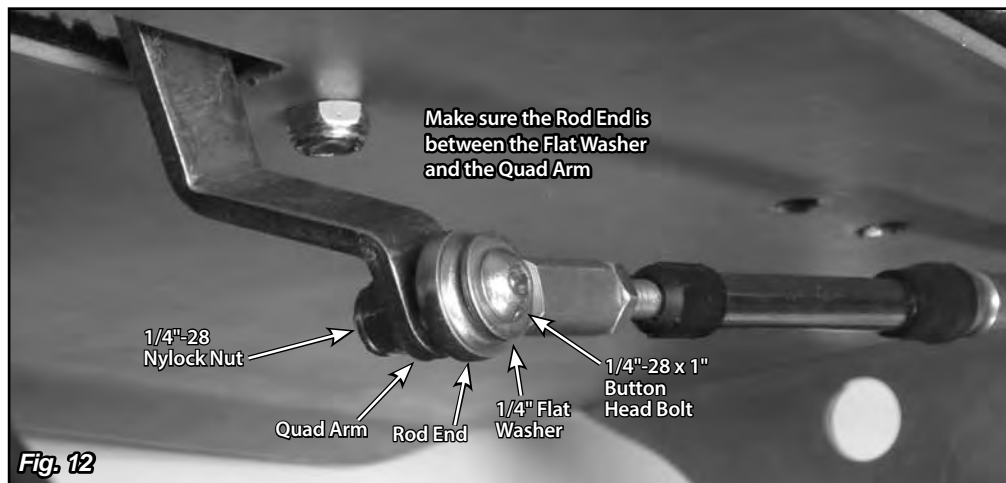

Fig. 12
Step 12: Route the cable up to the shifter and attach the other rod end to the quad arm using a 1/4"-28 x 1" button head bolt, flat washer, and nylock nut. **Fig. 12** The button head bolt can be installed from either direction, but make sure the rod end is sandwiched between the quad arm and the flat washer. When routing the cable, make sure that it is not touching the exhaust or any moving parts. The cable should be routed as smoothly as possible without any sharp bends.